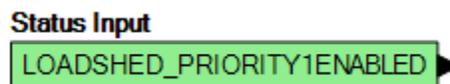
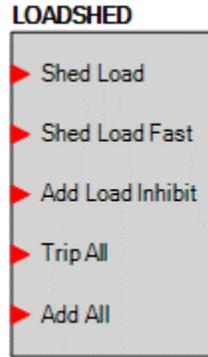

Figure 15-7. Priority 1 Load Enabled Logic Input
Figure 15-9. LOADSHED Logic Element
As available generators are brought online, the online kW capacity increases. When the online kW capacity becomes greater than the sum of a load priority level's Load kW value, the Add Reserve value, and any enabled Add Reserve Bias values for the duration of the Add Delay, the corresponding logic input (Figure 15-7) becomes TRUE after the Load Add Delay has timed out. The TRUE input can be linked to an output which can in turn close the breaker to the corresponding load, thus adding it to the system. Loads with lower load priority numbers are added first, starting at one (1). A load priority with a number of zero (0) is disabled and excluded from load adding/shedding functions.
When the Shed Load input of the load shed (LOADSHED) logic element (Figure 15-9) is TRUE, the loads with higher load priority numbers are shed first and their corresponding logic inputs (Figure 15-7) become false. A load priority with a number of zero (0) is disabled and excluded from load adding/shedding functions. The first load is immediately shed and subsequent loads are shed after the duration of the Shed Delay. Loads are shed one at a time and the Shed Delay must elapse between iterations.